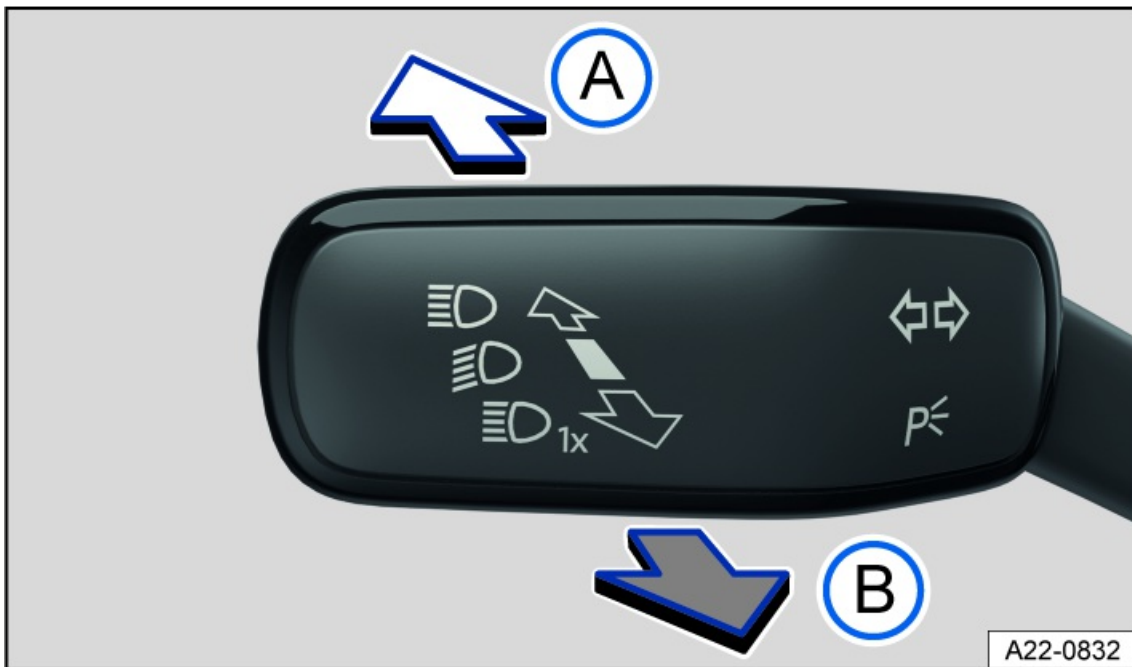

Fig. 80 On the left side of the steering column: turn signal and high beam lever.
3. Tap the lever forwards out of the basic position *fig. 80*.
- *Increase sensitivity*: push the lever forwards out of the starting position and hold it in place for approx. 15 seconds *fig. 80*.
- *Reset sensitivity to standard setting*: push the lever forwards out of the starting position and hold it in place for approx. 15 seconds *fig. 80*.
Or: if high beam control (Light Assist) is switched on and active, pull the lever backwards *fig. 80*.
Or: if high beam control (Light Assist) is switched on and is not active, press the lever forwards *fig. 80*. The manual high